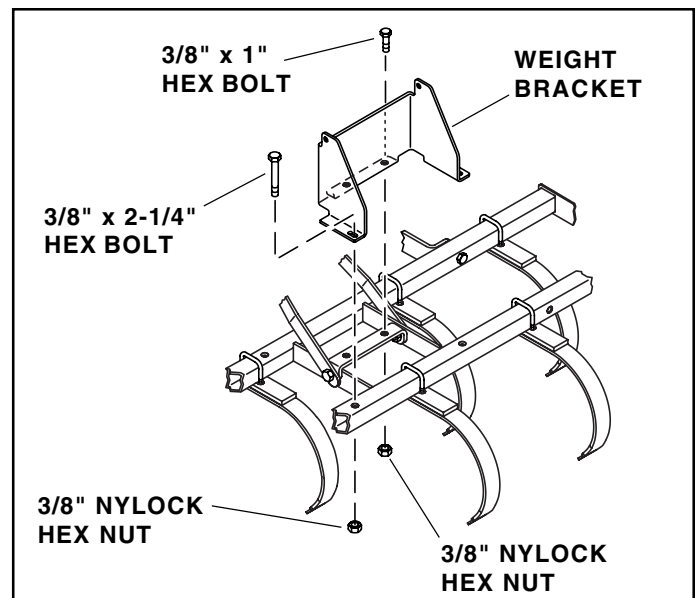

FIGURE 7
- Attach the front of the weight bracket to the support bracket using two 3/8" x 1" hex bolts and two 3/8" Nylock hex nuts. Attach the sides of the weight bracket to the rear of the frame using two 3/8" x 2-1/4" hex bolts and two 3/8" Nylock hex nuts. See figure 7.